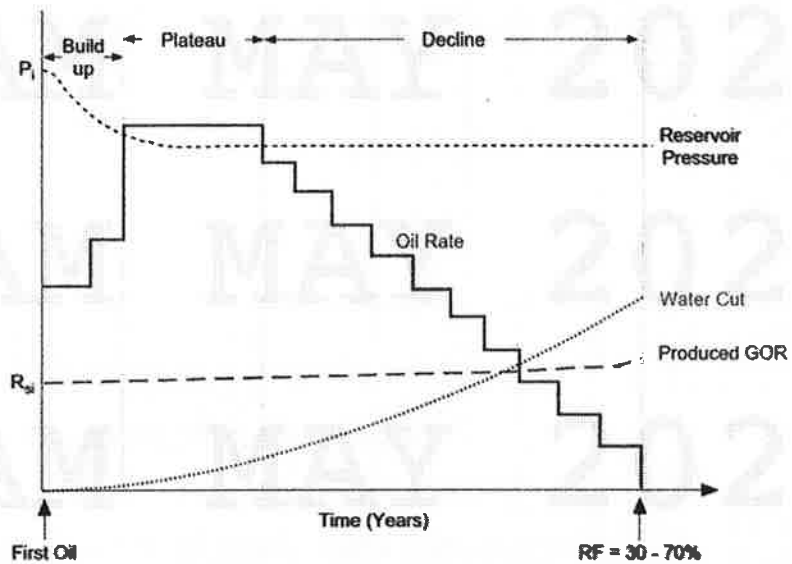

FIGURE Q3a: Forecast production profile of Field Delta.
3. a. Assess a suitable primary drive mechanism for Delta field based on the forecast production profile shown in FIGURE Q3a and evaluate its production characteristics.